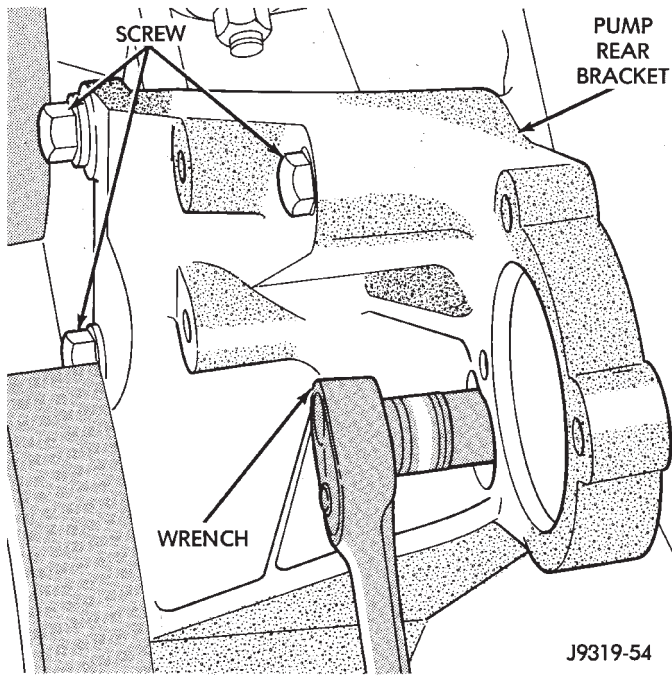

Fig. 10 Rear Bracket (Front View)
(6) Remove fan from pulley and hub on rear bracket.
(7) Remove 4 screws attaching the rear bracket to block (Fig. 10, 11).
(8) Remove bracket from engine.